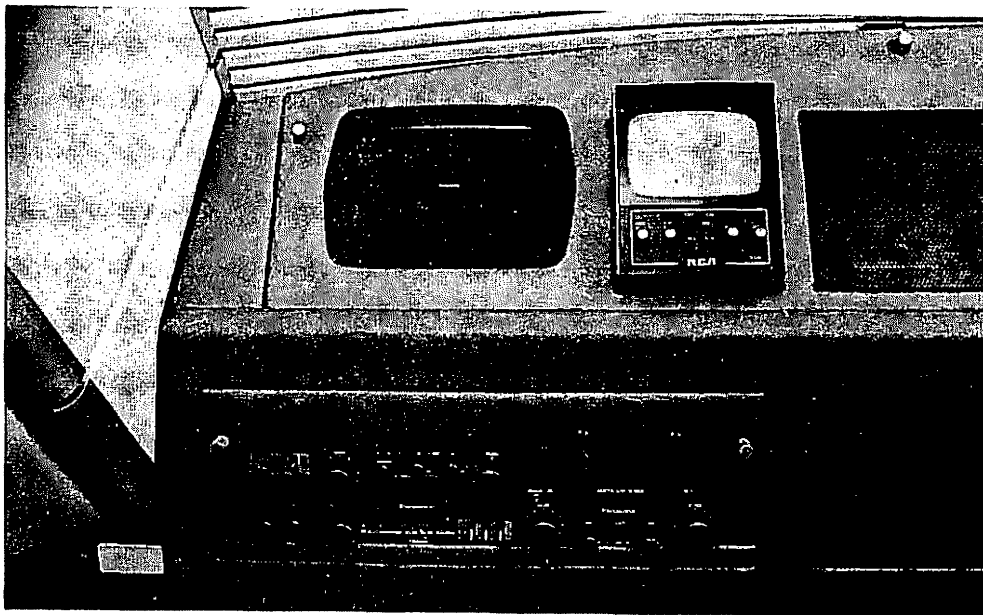

Figure 2. CCTV Monitor
- CCTV Monitor/TV, figure 2, located on the upper bulkhead panel above the driver;
The TV monitor, figure 2, includes the ON-OFF switch which applies power to the remote CCTV